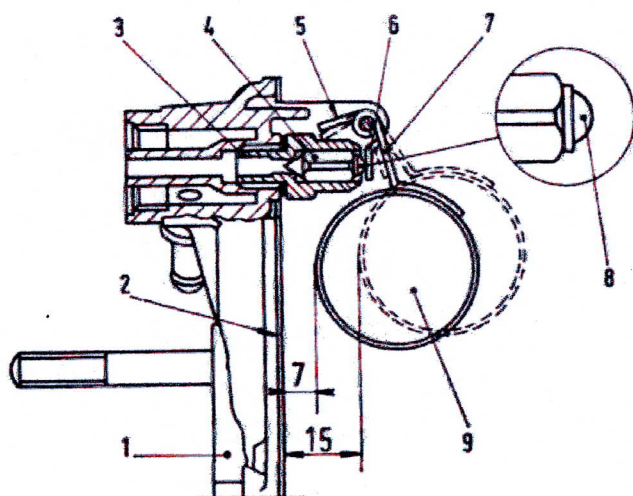
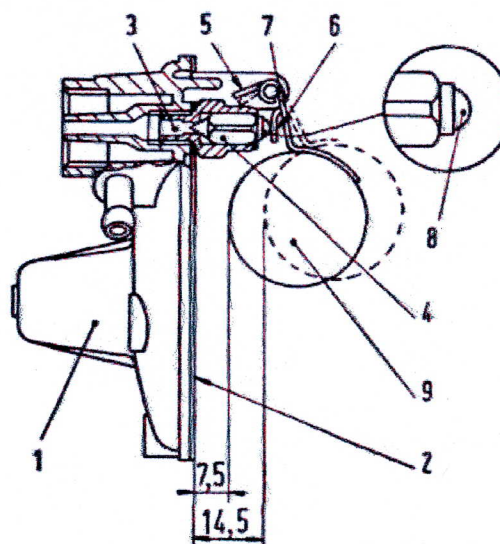

Fig. 43. - Float level setting diagram - Weber carburetor type 26 IMB 4.
Fig. 44. - Float level setting diagram - Weber carburetor type 26 OC.
- Check that needle valve (3, figs. 43 and 44) is screwed tight in its seat.
- Keep carburetor cover (1) upright or else the weight of float (9) would lower ball (8) fitted on needle (4).
- Check that with cover held vertical and float arm (6) in slight contact with ball (8) of needle (4), the float is .2756" (7 mm) (engine 110 D.000 fig. 43) or .2953" (7.5 mm) (engine 120.000, fig. 44) away from cover with gasket (2) flat against cover face.
- Check the float travel: at travel end the float should be respectively .5906" (15 mm) and .5709" (14.5 mm) from the cover face; if necessary, bend lug (5) as required.
e) If float (9) is not correctly positioned, bend float arm (7) until the correct adjustment is obtained. See that arm (6) is perpendicular to needle (4) axis and does not show rough spots or indents which might impair free sliding of the needle.
f) Check that float (9) rotates freely around its pivot pin.
Should replacement of the needle valve (3, figs. 43 and 44) be required, make sure first that the new valve is screwed tight in its lodging with a new seal interposed. This will mean that the level check must be repeated.